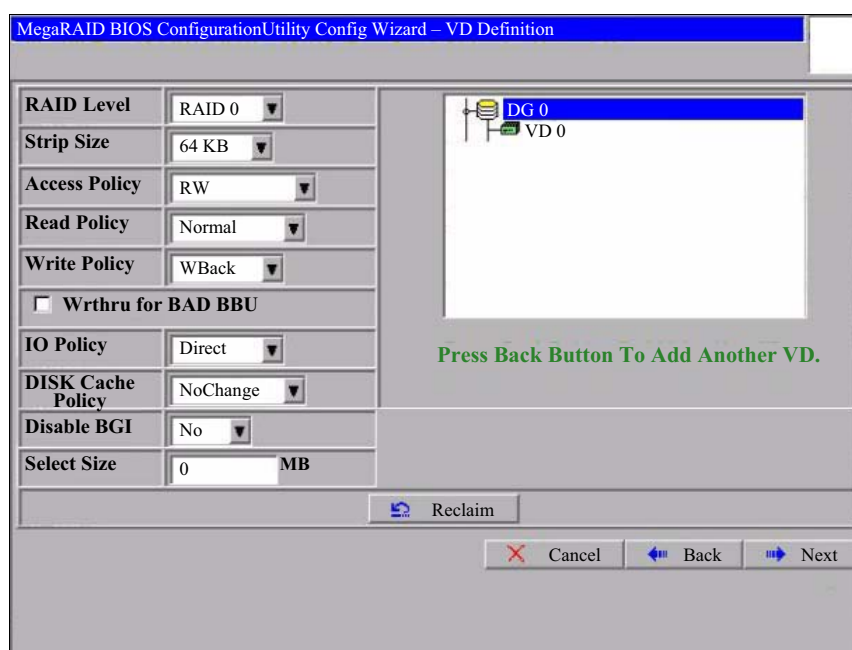

Figure 2-44 Configuring the RAID volume
2. Choose the physical drives that you want to include in a virtual group and click **Next**. The VD Definition wizard opens, as shown in Figure 2-44.